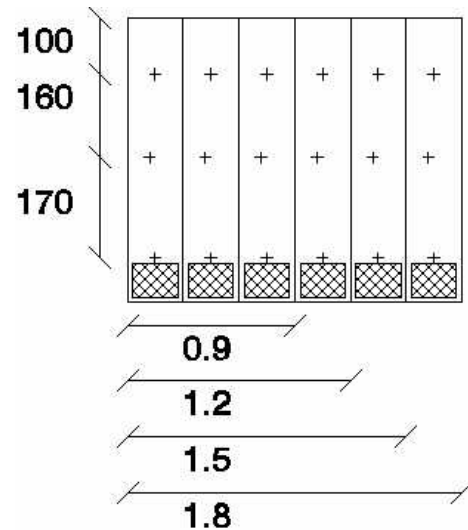

Fig. 1: Showing the relationship between the distance from the rear in mm (Y-axis) and the different models (X-axis).
2. Measure the air velocity in the test points shown in fig. 1.